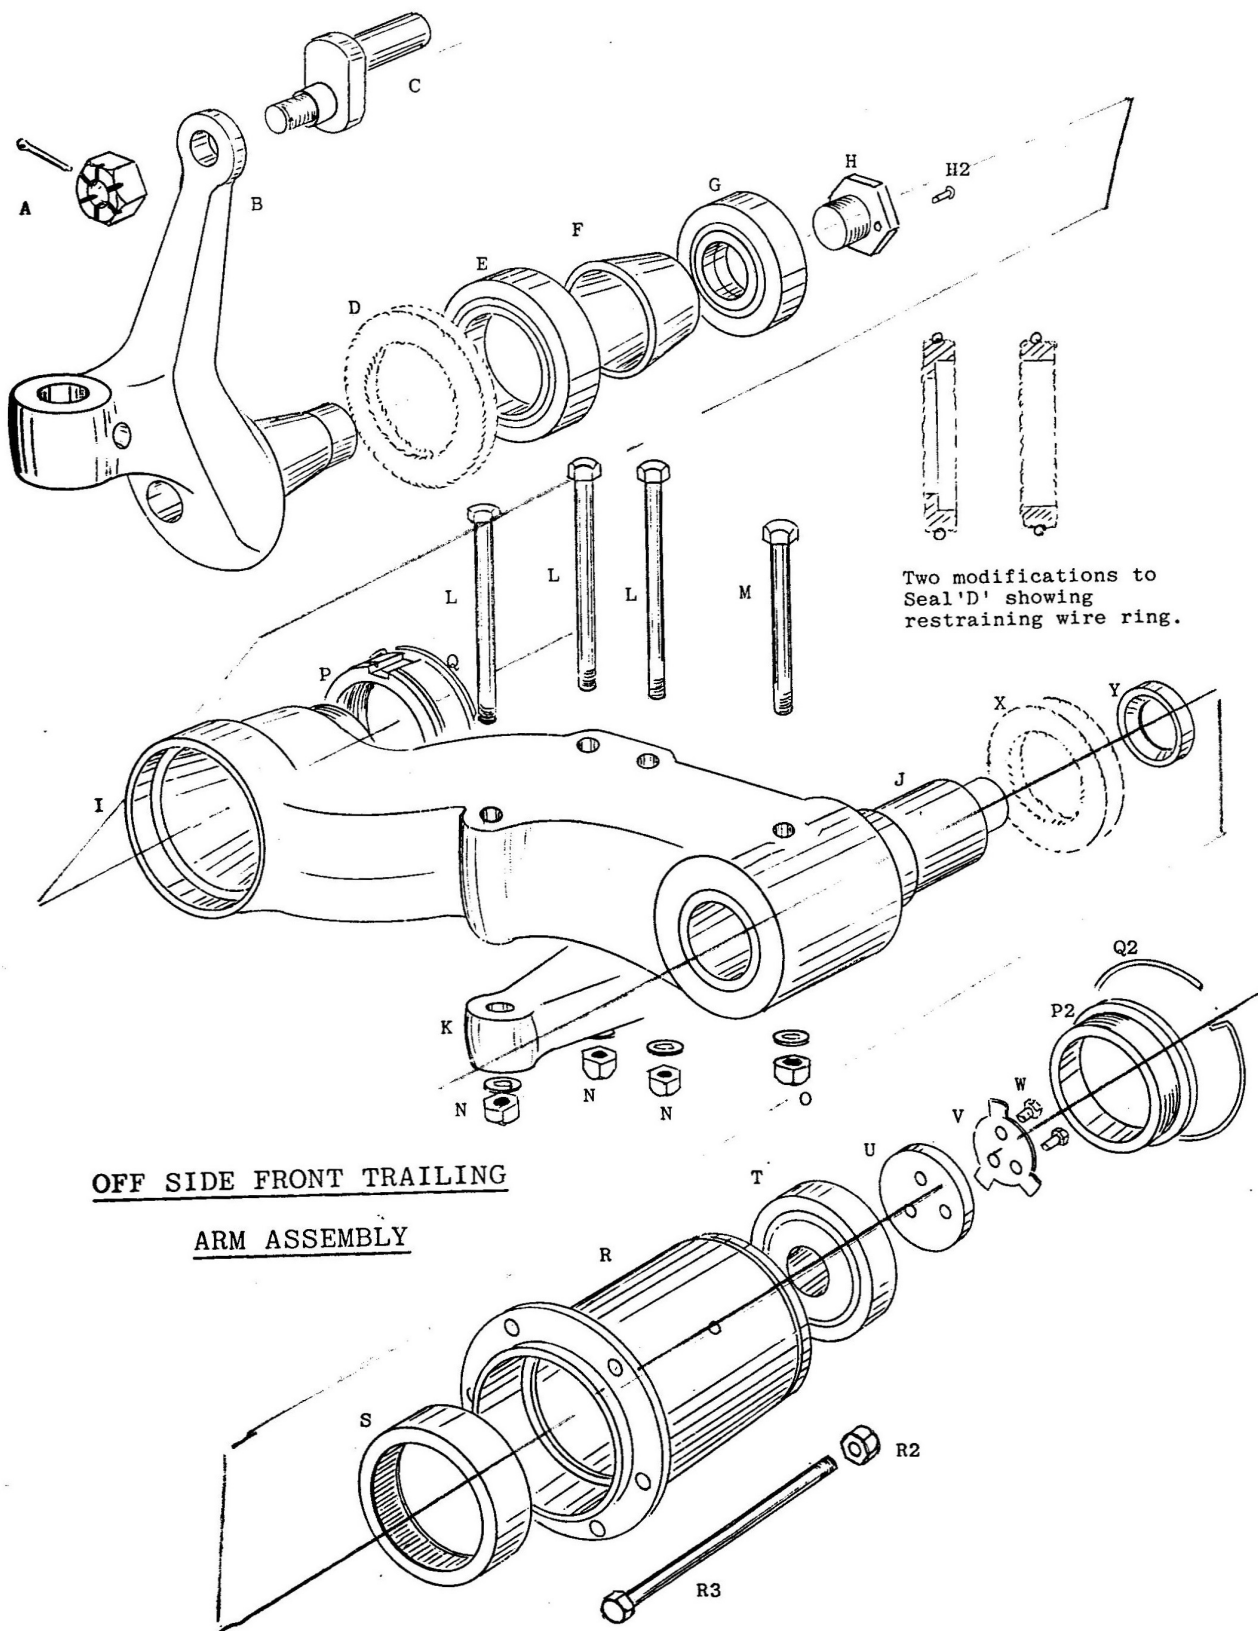

Fig 12.
Having now dealt with the steering box, ball joints and centre swivel plate, we may now pass on to the subject of the front suspension. As I said at the beginning, this, with a few additions will be a repeat of the notes in Gazette No.3, but please note that once the wheel post 'B' (Fig 12) has been removed, one may divert ones effort to king pins and bushes before the reassembly of the suspension bearings etc. although in the interest of minimum confusion I shall comment on this as a separate item.
The seal (D) is made from 1/4" thick felt, and is trapped between the outer ring of the race (E) and the wheel post (B). Since there is not much space here, it is necessary to carefully reduce the thickness of the felt to about 1/8" up to the external diameter of the race, otherwise the races (E) and (G) may not be drawn fully on. As considerable force is required to locate the bearings against this reaction from the felt and the possible tightness of the inner needle roller part, and with regard to the frailty of the screw (H), I would suggest that a bolt with a head of normal proportions be used to draw the assembly together (*I seem to remember this was a 5/8" B.S.F Bolt*) whereafter the original screw will be substituted and pulled up hand tight. (*Since this was originally written, I have used a restraining ring made from a length of 1/8" welding wire. This positively prevents the felt from being displaced by grease pressure in which case one might as well cut the felt to fit the outer diameter of the needle roller bearing (E) as in the sketch showing the second modification of seal (D), Fig12*). Both felt seals should be soaked in oil or some such water repellent as WD40, but in the long term it is more important there is grease on the way out, rather than water on its way in!
ITEM P2: FIG.12